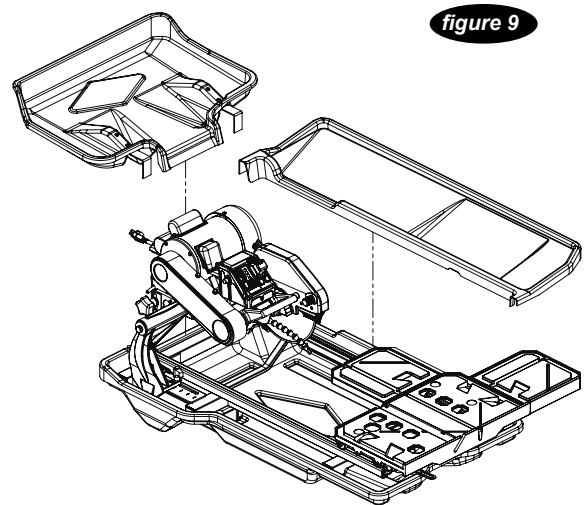

figure 9
6. Attach the side drip tray followed by the rear drip tray. (see **figure 9**)